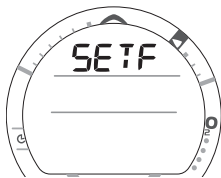

Fig. 20 - Set F (FO2)
- > Depressing the A and S buttons simultaneously for 2 seconds while the NORM or GAUG SURF MAIN screen is displayed will access SET F identified by the graphic SETF (Fig. 20).